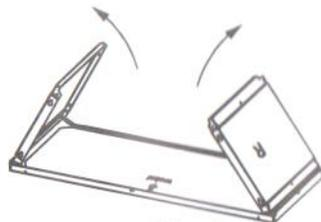

Fig. 1
- Open the LEFT COVER and RIGHT COVER as shown below. (See Fig.1)